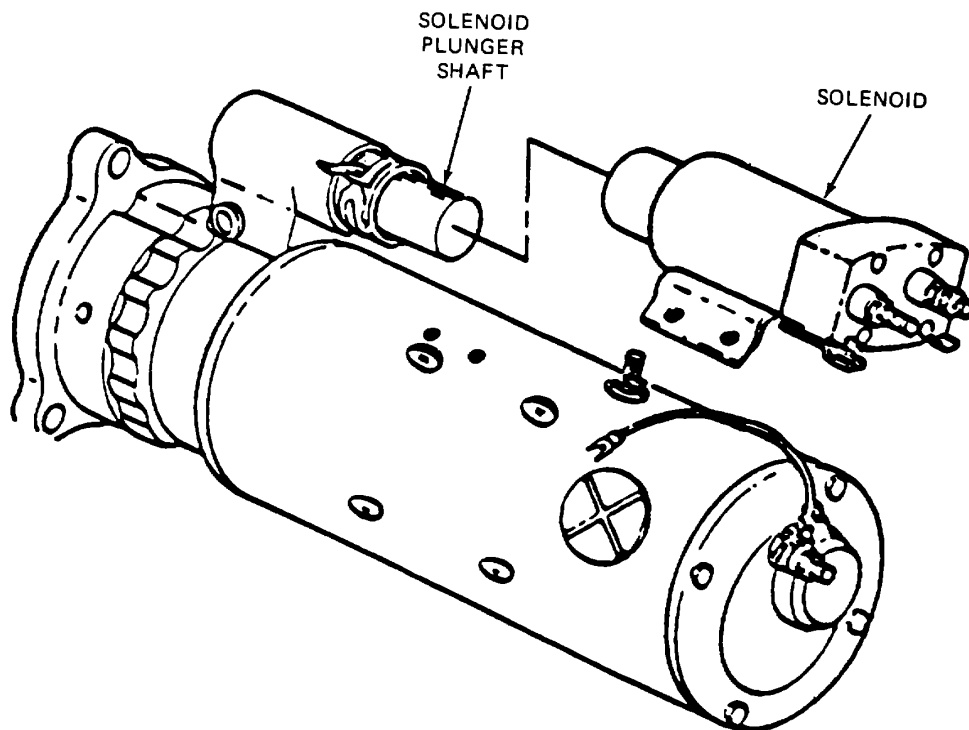

Figure 7-10. Starter Solenoid Defective.
- (1) Disconnect power. (Unhook negative battery terminal.)
- (2) Gain access to engine starter; remove if required.
- (3) Remove solenoid from starter (figure 7-10).
- (4) Rotate solenoid plunger shaft 180 degrees.
- (5) Install solenoid on starter.
- (6) Reconnect power.
- (7) Test starter operation.